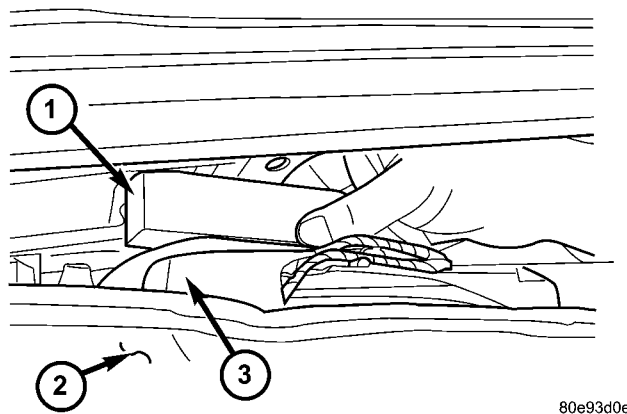

Fig. 3 FOAM BLOCK INSTALLATION
- 20. From the left sliding door area, locate the headliner air vent above the 2nd row seat. Pull the headliner down just forward of the vent to access the front of the headliner duct. Remove backing from foam block (p/n 05086279AA) and place the foam block, adhesive side down, over the headliner duct as shown in (Fig. 3).